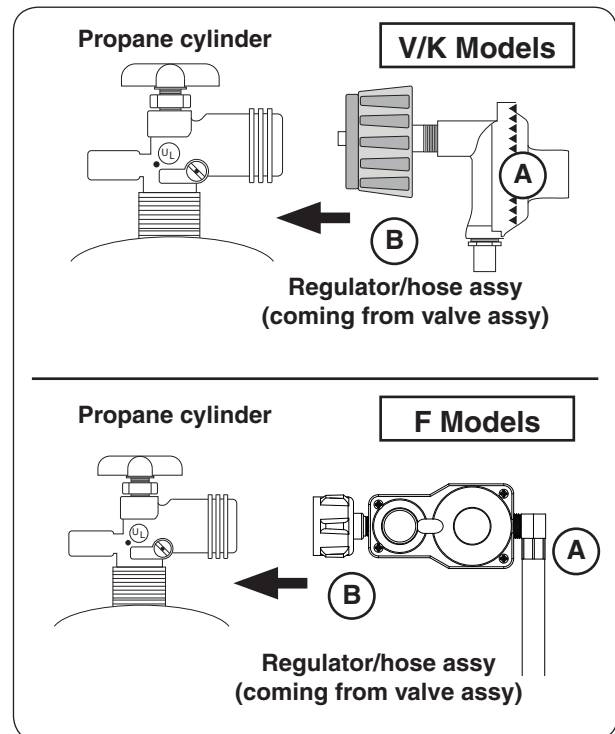

Fig. 24-1 Connecting to an L.P. cylinder
2. Attach the regulator end of the hose assembly to a propane cylinder (not included) and tighten (see Fig. 24-1).
3. Attach the regulator end of the hose assembly to a propane cylinder (not included) and tighten (see Fig. 24-1).